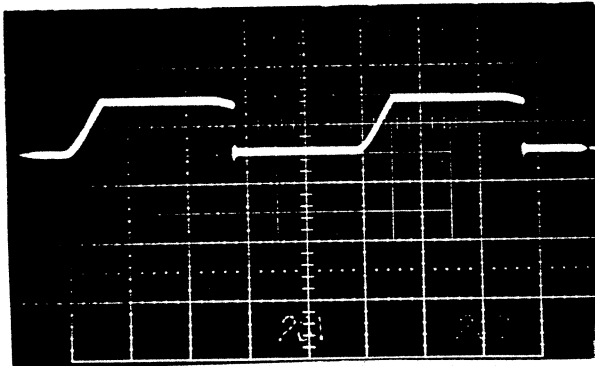

Fig. 1
Caution: The following procedure calls for increasing the variac from 25Vac to 117Vac in less than 5 seconds. The startup circuit is designed as such that Q518 turns on when line voltage is below 90V. This causes it to dissipate a large amount of power. **Q518 will fail after about 10 seconds if line is set at 50Vac.** During normal turn-on, when power is switched with 117Vac applied to the line, the transistor will dissipate for only a few milliseconds. Set the variac to zero. Connect the power cord and turn power on. Set the voltmeter to the 100V scale. With an insulating adjuster inserted into R508, slowly raise the variac to 25V. The line current should be less than 200mA. Compare the waveform with Fig. 1 (*As of 9/99- picture available only as poor copy, see accompanying wave form pages- Ed.*). The top part of the waveform should be starting to break over and droop towards the centerline. Adjust R508 until the scope looks like the photo. Counterclockwise increases droop.
- 4) Look at output, compare to Fig. 1.
- 5) Disengage channel switch on RFG2- compare to Fig.1 (change scope range to 2V/cm, if necessary. Clean channel LED should light.